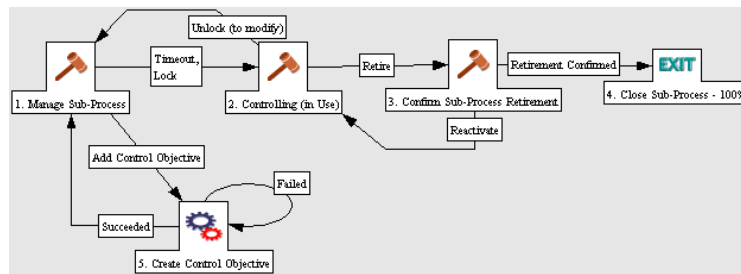

Figure 4-3. Sub-process lifecycle
- *Figure 4-3* shows the sub-process lifecycle.